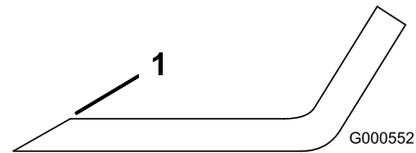
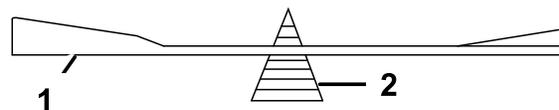

Figure 52
Figure 53
1. Use a file to sharpen the cutting edge at both ends of the blade (Figure 52). Maintain the original angle. The blade retains its balance if the same amount of material is removed from both cutting edges.
2. Check the balance of the blade by putting it on a blade balancer (Figure 53). If the blade stays in a horizontal position, the blade is balanced and can be used. If the blade is not balanced, file some metal off the end of the sail area only (Figure 52). Repeat this procedure until the blade is balanced.